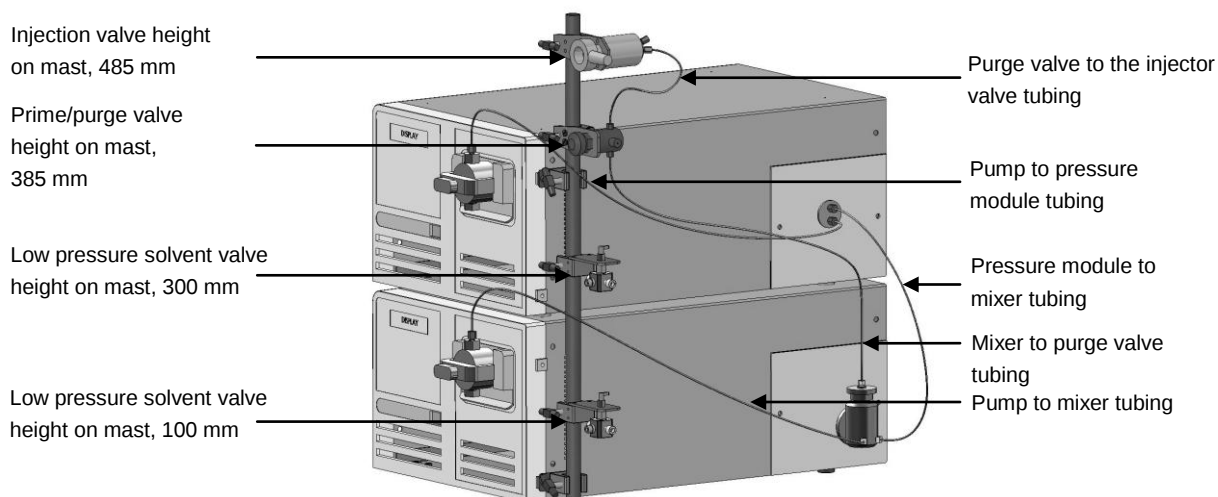

Figure 1. Tubing on binary pumps
Note See Figure 1 for the tubing locations.
4. Place the loosely assembled tubing and fitting into the correct location (see Figure 1). Make sure the tubing is inserted fully inside the port. Tighten the nut finger-tight.